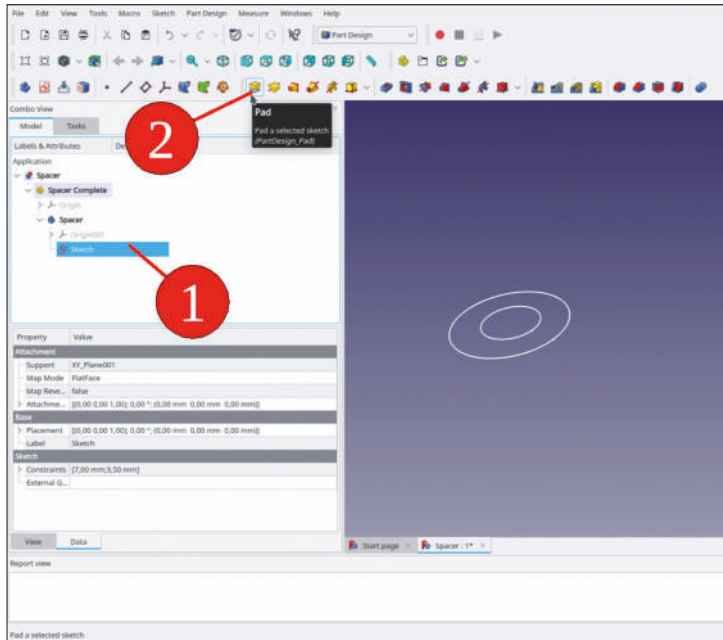
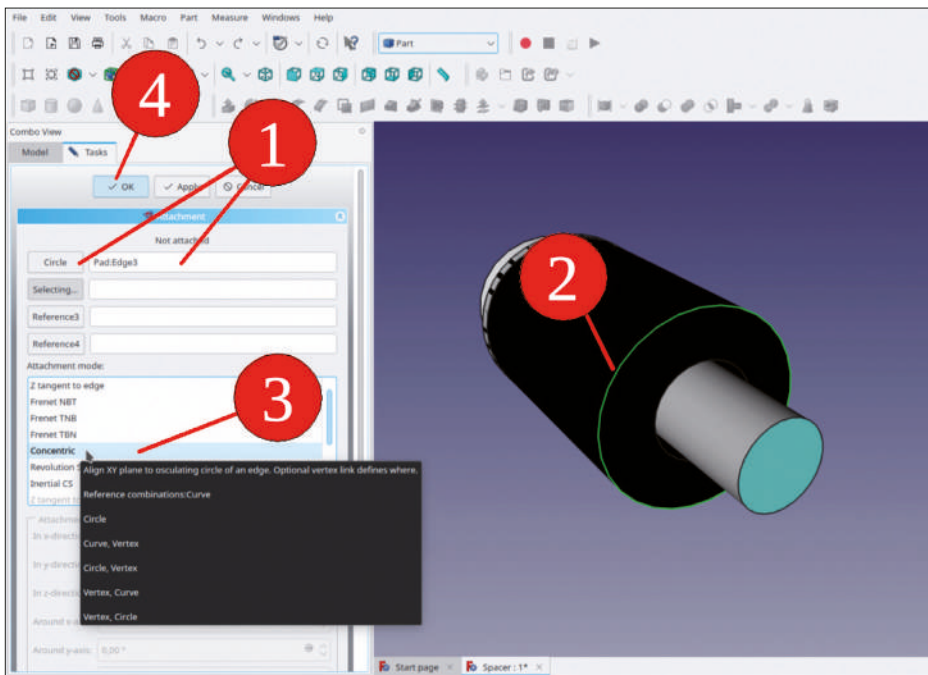
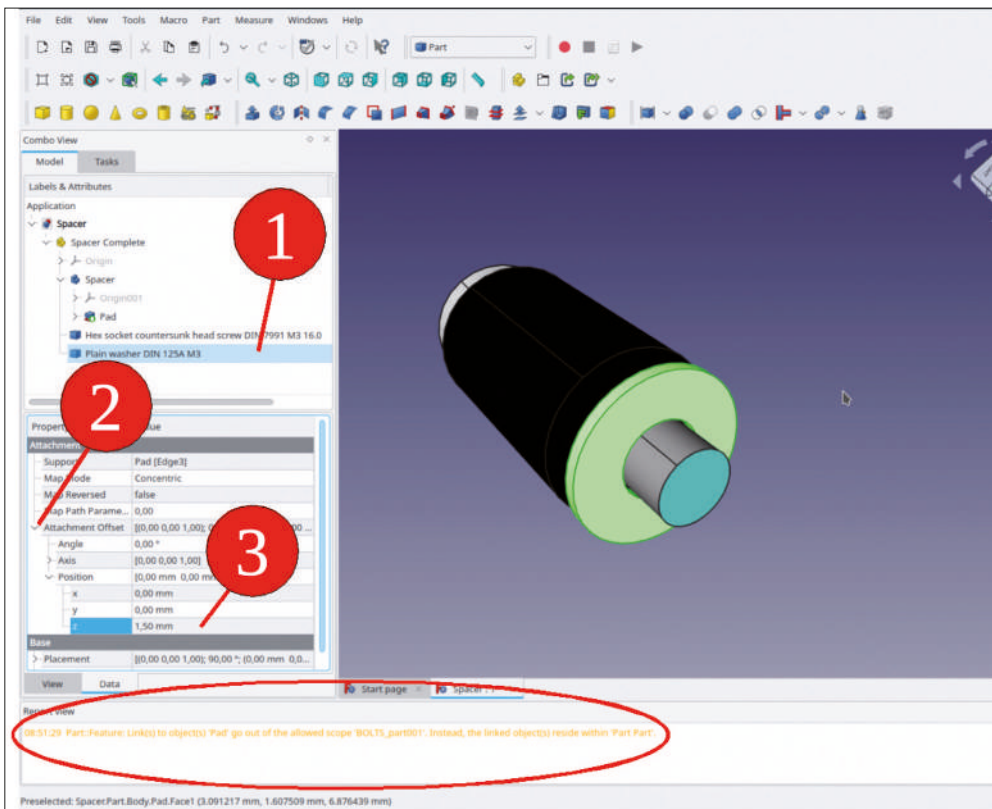

Figure 4-5
Figure 4-15
Figure 4-16
- 5.** After closing the sketcher, the sketch is displayed in the 3D window to the right. In order to create the spacer, mark the sketch in the tree view and select the 'Pad' tool button from the workbench menu (Figure 4-5).
Upon opening the task window, the collector for 'Reference1' is already activated (the button label reads 'Selecting...'). Click into the edit field next to it, which then receives the focus (i.e., gets a blue rim). In the 3D view, click the rim of the spacer, which is opposite to the head of the screw, where the washer should go to (Figure 4-5). In the task window, select the attachment mode 'Concentric' (Figure 4-15, step 3) and close the task window with the 'OK' button. This brings the washer already close to the end of the spacer (Figure 4-16). Sometimes, the selection of the reference in the 'Attachment' task window is not functioning right away (maybe something else was clicked in between the steps). Then, the collector needs to be activated again, by clicking its button until its color is dark gray, and the label reads 'Selecting...' again. After that, click the edit field next to it, to grant it the focus (indicated by the blue rim). Only then, the collector is ready to receive a feature.
10. Often, a circuit board is mounted with the spacer. It is therefore useful to define a default attachment Z offset, which accounts for the board thickness. This usually amounts to 1.5 mm (or 1.55 mm, depending on the unit base). The parameter can be accessed by expanding the 'Attachment Offset' property in the Combo View (Figure 4-16, number 2).
If a small blue check mark appears on the tree view item of the washer, the component has not been recalculated yet. Then, trigger the recalculation with the F5 key. A warning message is issued: (Figure 4-16; output window at the bottom):